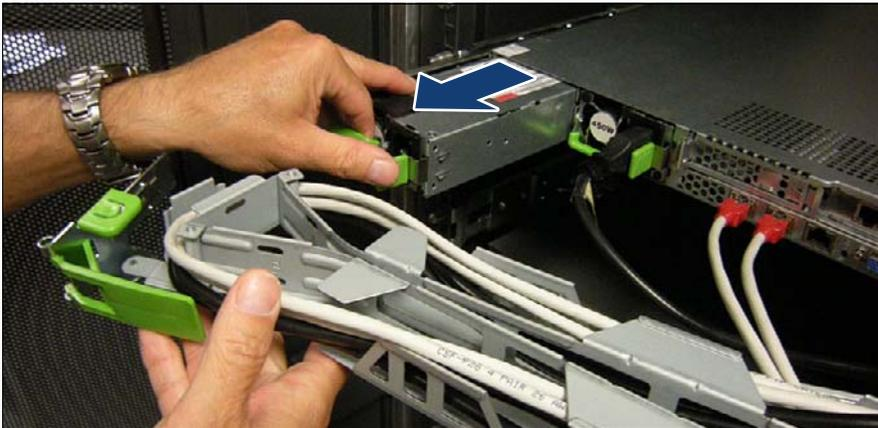

Figure 72: Removing the PSU
- ▶ Remove the PSU (see figure 72) and install the new PSU carefully.